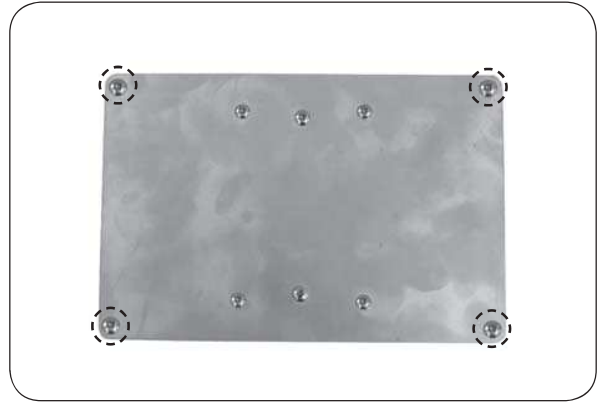

Fig. 33-1 Remove 4 large screws
2. Using a phillips screwdriver, remove the 4 large screws found on the cover of the power supply box (see Fig. 33-1).